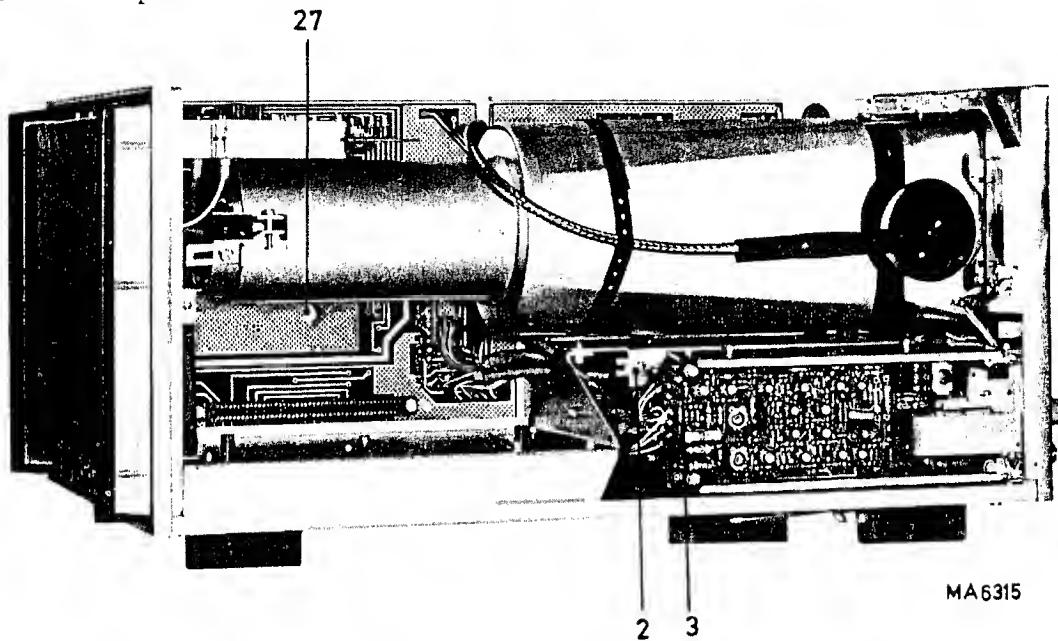

Fig. 32. Dismantling; left-hand side view
E. REMOVING PRE-AMPLIFIER UNIT 1 (Fig. 32)
(Figs. 32 & 42)**
(Figs. 32 & 46)**